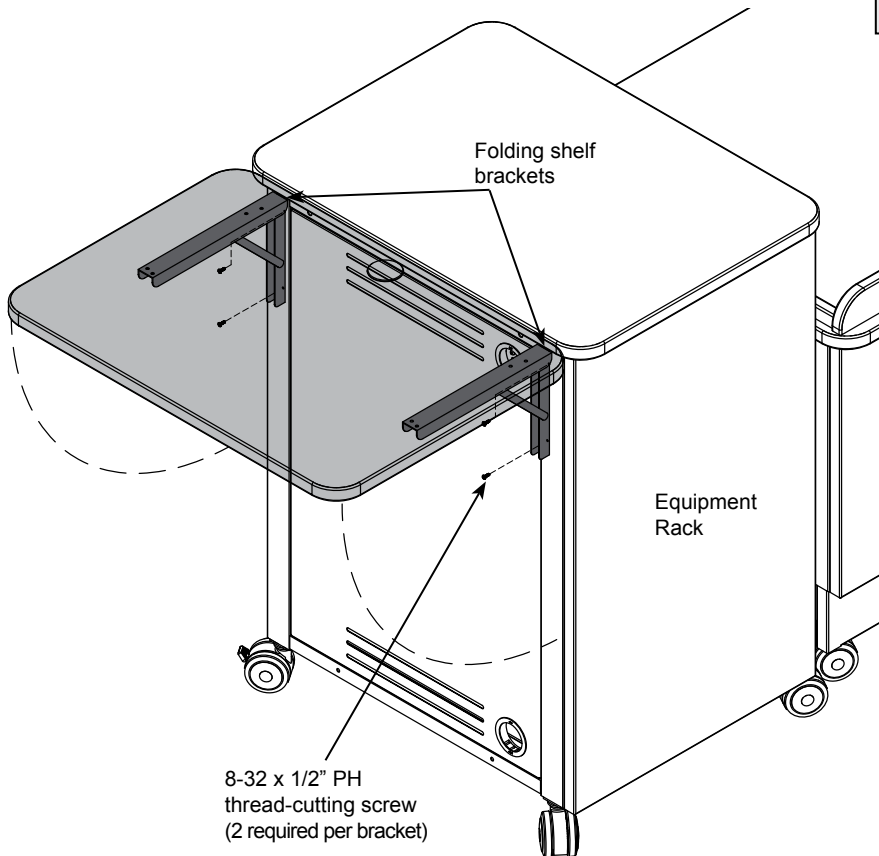

Figure 4B
3. Align and attach each bracket to the side of the lectern with (2) 8-32 x 3/8" PHM screws and tighten securely. **Figure 4B.**